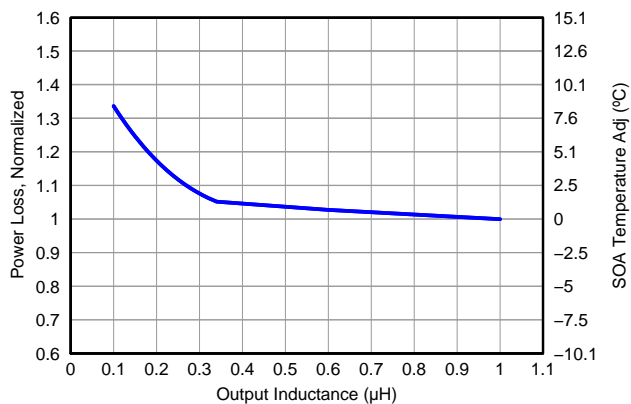

Figure 9. Normalized Power Loss vs. Output Inductance
- Normalized Power Loss for output inductor ≈ 1.06 (Figure 9)
- SOA adjustment for output inductor $\approx 1.5^\circ\text{C}$ (Figure 9)